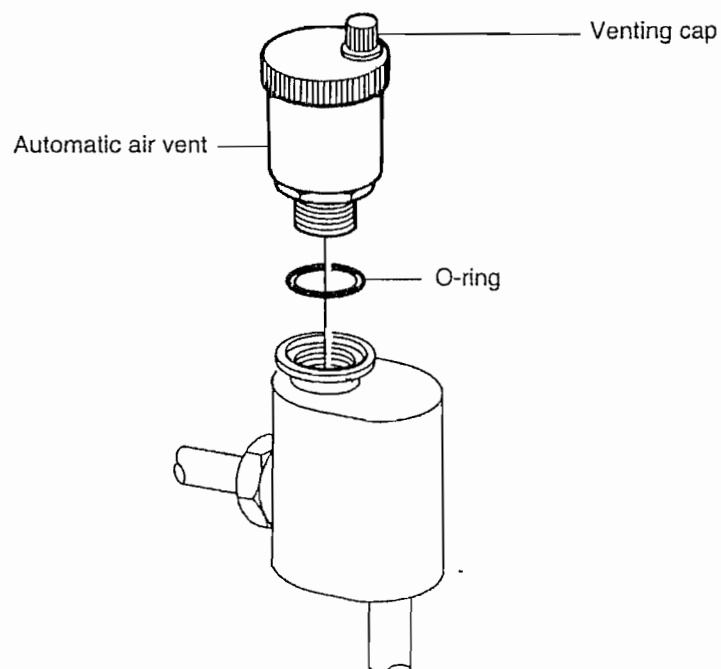

Fig. 41
- d) Re-assemble in reverse order ensuring the «O» ring is fitted (fig. 41) and that the venting cap is loose. Replace pump ensuring that the arrow indicating flow points upwards.